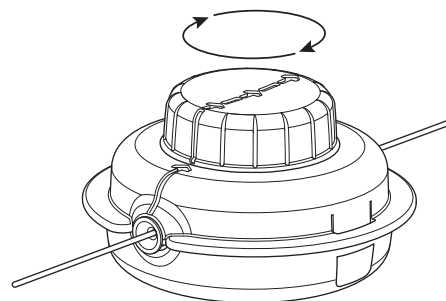

Fig. 17
- Turn the bump knob clockwise to wind the line until about 5 inches (12.7 cm) protrude from each side of the cutting head (Fig. 17). **DO NOT** push the bump knob down while winding the line.